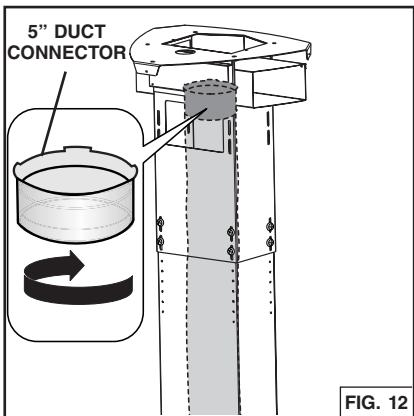

FIG. 12
- b. Twist on the 5" Duct Connector. Fig. 12.